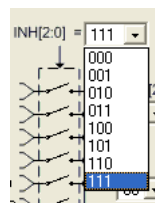

Figure 3-21
- (1) Click the network by mouse, INL can select the specified network.
- (2) Click the network switch by mouse, INL can select the specified network.
- (3) Click the mouse, a menu as Figure 3-21 will appear and users can select the switch network.